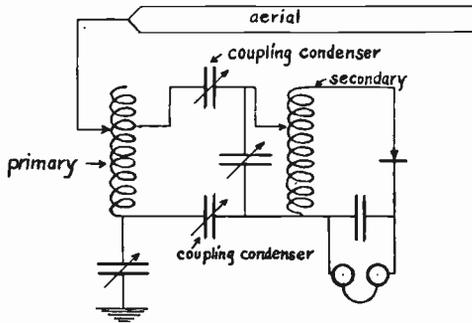

Fig. 61. — Statically (or Capacity) Coupled Receiver
4. Capacitatively coupled receiver (Figure 61).